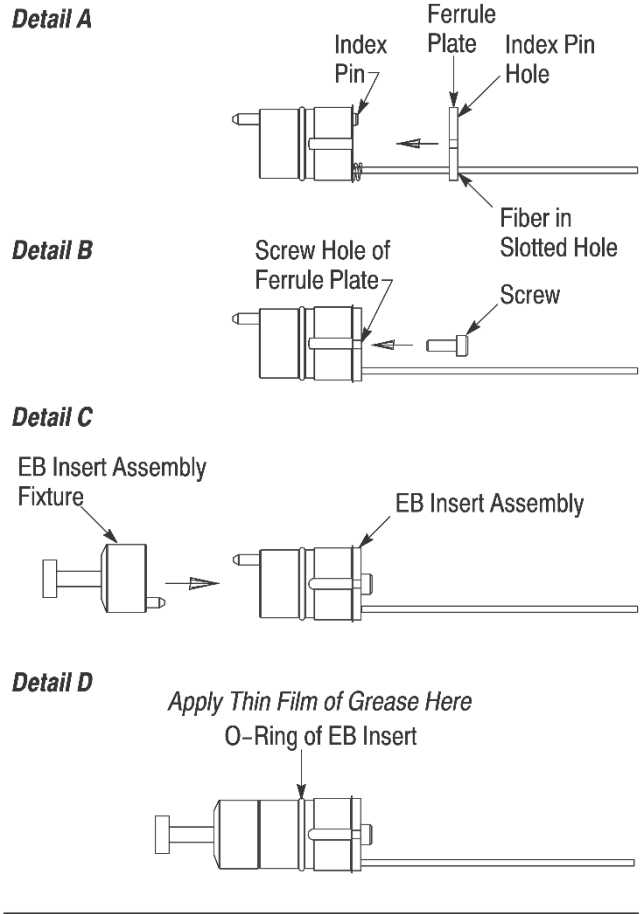

Figure 12
4. Align the index pin hole of the ferrule plate with the index pin at the back of the EB insert, and slip the fiber into the closest slotted hole in the ferrule plate. See Figure 12, Detail A.
5. Hold the ferrule plate against the EB insert, making sure that the index pin enters the index hole. Thread the screw through the screw hole of the ferrule plate and into the hole in the EB insert. See Figure 12, Detail B. Using the 2.5-mm hex wrench, tighten the screw to a torque between 0.8 and 1.0 N·m. Check to make sure that the ferrule plate is flush with the EB insert.
6. Align the guide pins with the guide holes, and fit the EB insert assembly fixture onto the EB insert assembly. Refer to Figure 12, Detail C.